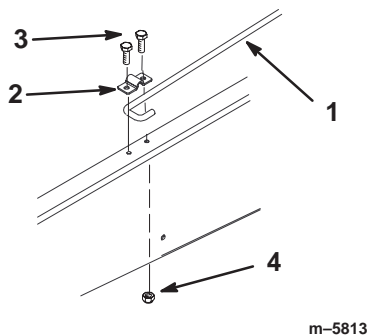

Figure 10
6. Loosen the bolt securing the prop rod clip to the frame until you can slide the J-hook end of the prop rod under the clip (Fig. 10).
7. Tighten the bolt and secure the other side of the clip with a new bolt (5/16 x 3/4 in.) and flange nut (5/16 in.) (Fig. 10).